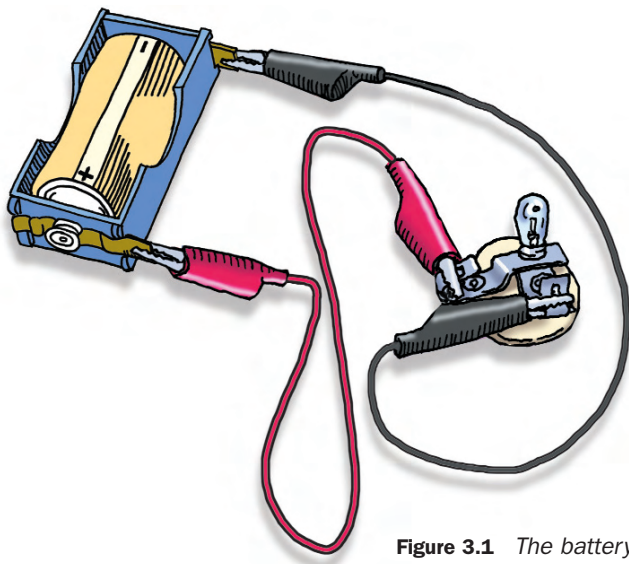

Figure 3.1 The battery connected to a lightbulb
1. Examine the dry-cell battery at your lab station. Will it light a bulb? Test it and see if it will (see Figure 3.1). Describe your test in your science notebook. What do you conclude about the energy in your battery?